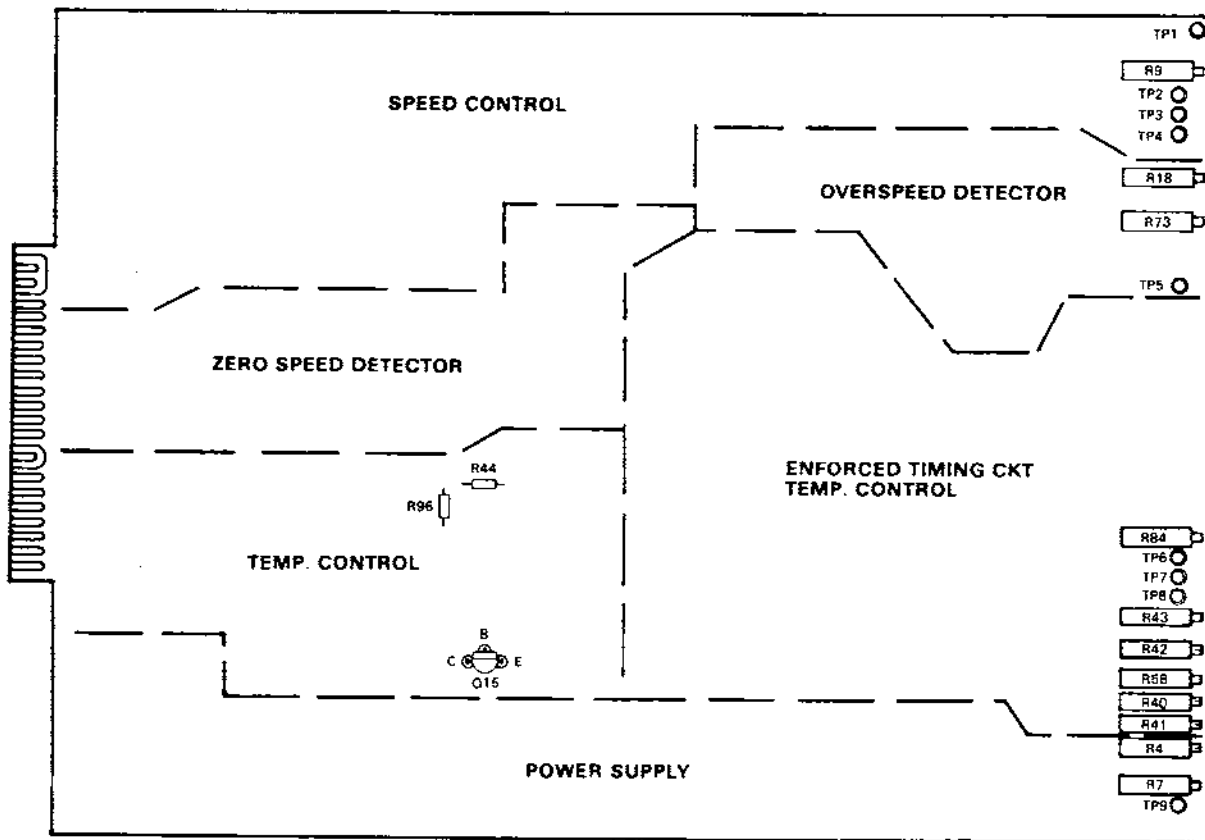

Figure 7-1. Test Point and Adjustment Locations for P.C. Board Assembly, PN 50059
Ambient room temperature must not exceed 25°C and should remain stable when performing the calibrations. Also, power supplied to the centrifuge must be stable and constant. Unless otherwise specified, all test points (TP) and potentiometer (R) adjustments are located on printed circuit board No. 50059. Figure 7-1 locates these items. Tables 7-2 and 7-3 describe the test points and calibration for P.C. Board, PN 50059.